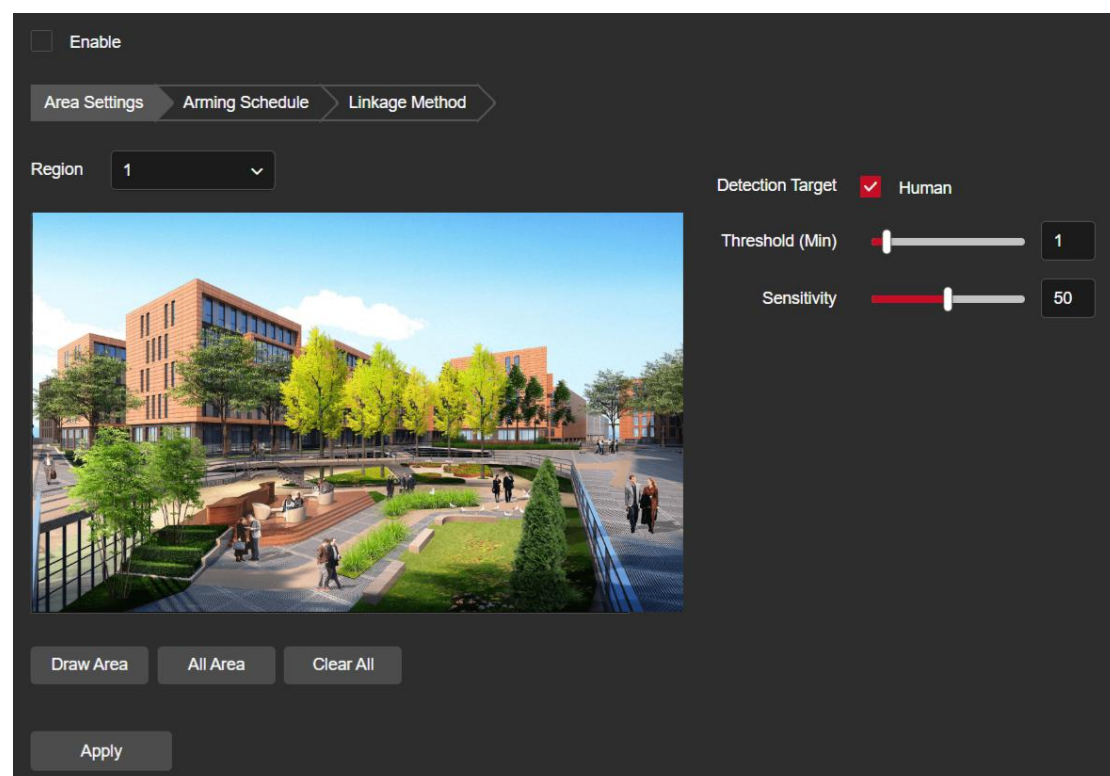

Figure 8-6-33
Step 1: In the main interface click on the "Configuration → Event → Smart Event → Loitering Detection" to enter the Loitering Detection settings interface, as shown in Figure 8-6-33.